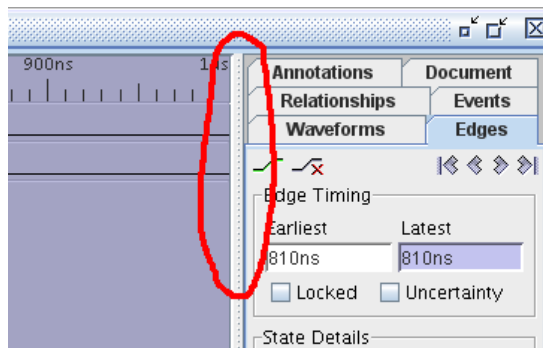

Figure 6 Attribute Panel Divider
The width of the attribute panel (4) may be changed by dragging the divider (Figure 6) between the waveform display (3) and the attribute panel. The attribute panel may be hidden temporarily; this facilitates viewing of the waveform using the full width of the editor window. Double-click on the divider to hide the panel. To restore, move the mouse over the divider which will now be on the far right of the editor window or click on an annotation or relationship on the waveform display.